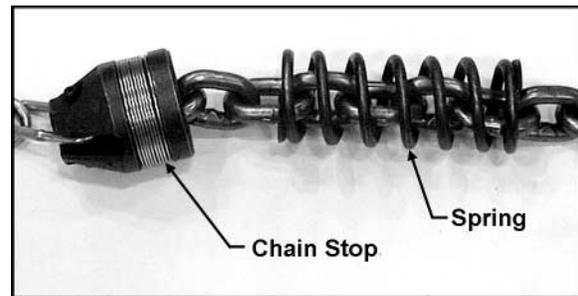

Figure 13
7. Check that the chain is not twisted at the bottom hook. All welds should face the same direction (see Figure 13). For hoists with two or more falls of chain, make sure the bottom hook is not turned over. This may cause the chain to twist.
3. On the slack side of the old chain, remove the chain stop and the spring (Figure 13). Keep these handy for later re-installing.
3. On the slack side of the chain, remove the chain stop, and remove the spring(s). (see Figure 13). Keep these handy for later re-installing.